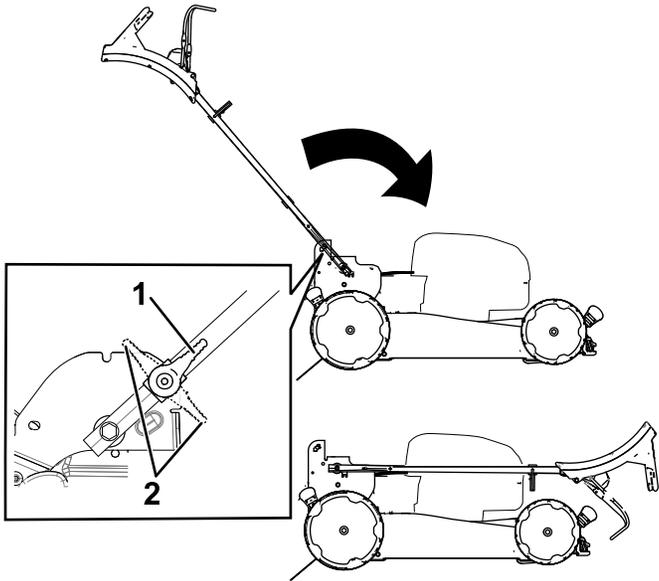

Figure 19
3. Disengage the handle locks (Figure 19).
4. Fold the handle fully forward (Figure 19).